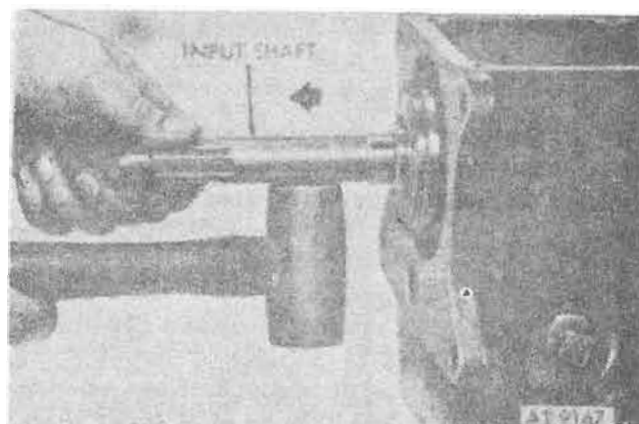

Figure 8-34. Removing input shaft from transmission.
- g. Tap input shaft gently with soft hammer and carefully remove input shaft assembly and 14 needle bearings from transmission housing (fig. 8-34).